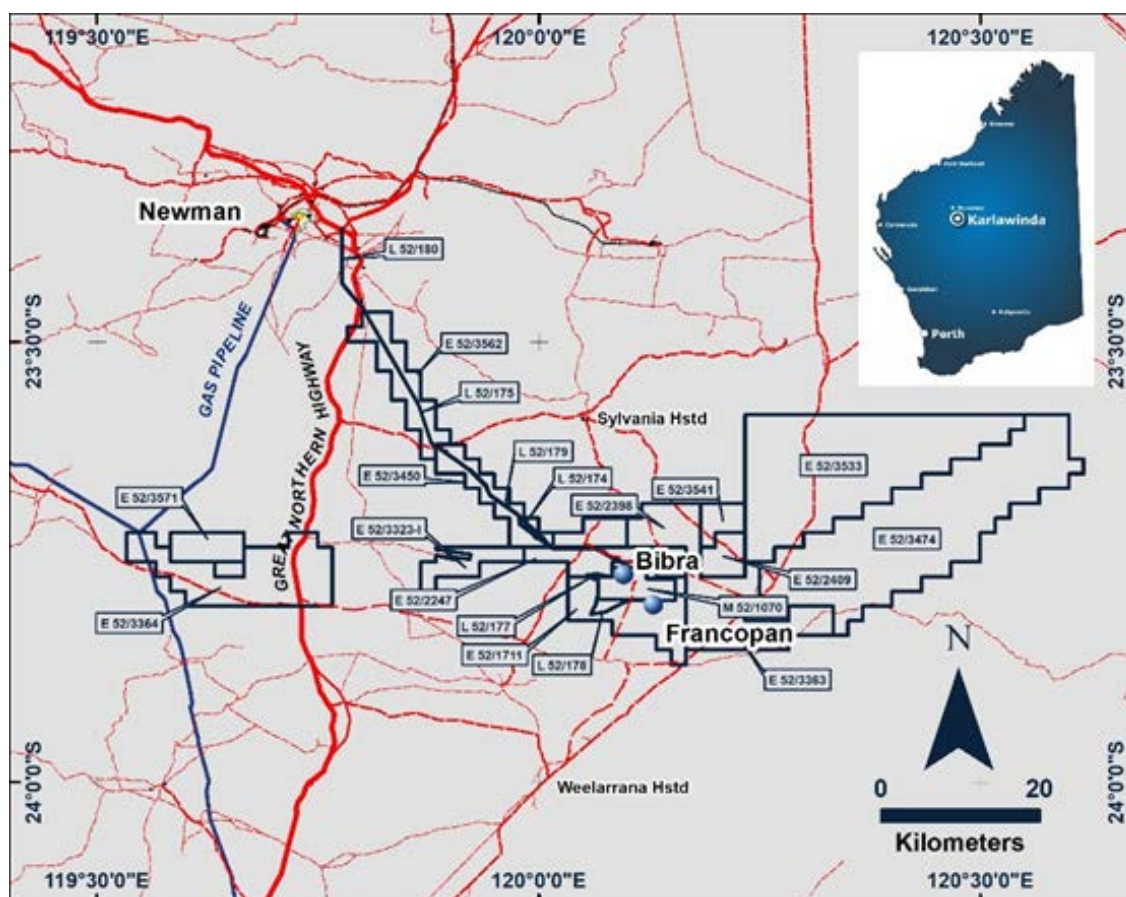

Figure 1: Location Map: Karlawinda Gold Project
Capricorn Metals Limited (ASX: CMM) is pleased to announce that it has delineated a significant new zone of shallow gold mineralisation over a strike length of at least 600m from recent Reverse Circulation (RC) and aircore (AC) drilling at the Tramore prospect, located ~600m south of the current 1.3 million ounce¹ Bibra Gold Deposit within its 100%-owned Karlawinda Gold Project in WA (Figure 1)